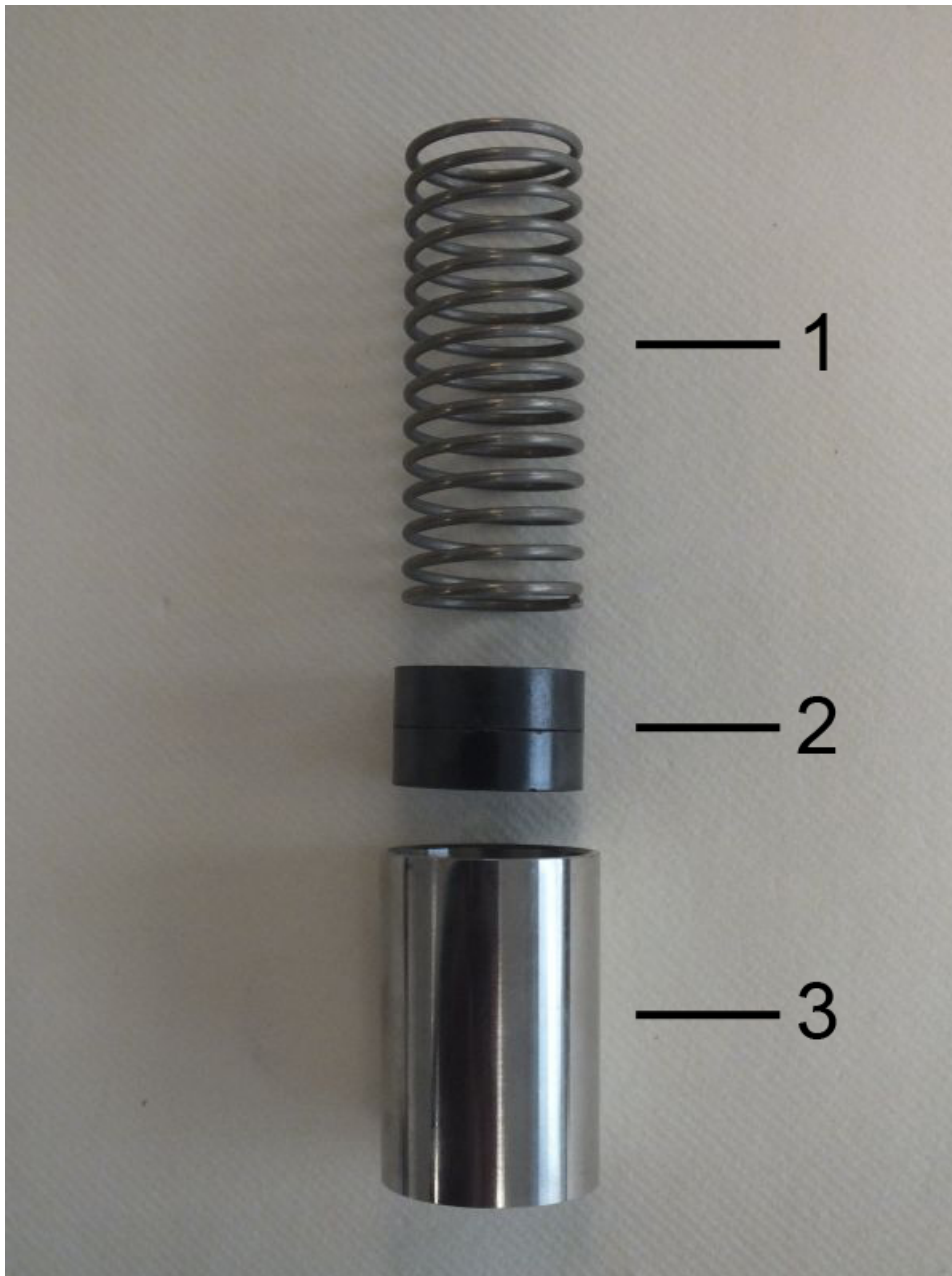

Fig. 66: Inner parts
8. ➤ Insert spring (*Fig. 66/1*) with magnets (*Fig. 66/2*) into the float (*Fig. 66/3*) ensuring proper magnetic pole orientation (north pole toward device outlet)